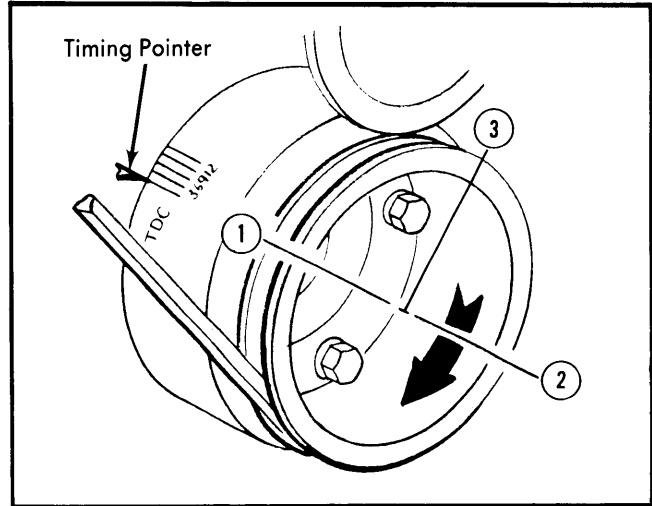

Fig. 7 Crankshaft Positions for Adjusting Hydraulic Valve Lifters
1) Rotate crankshaft until No. 1 piston is at TDC (point 1, see Fig. 7) after compression stroke as indicated by timing mark on crankshaft damper and pointer. Make chalk mark on damper 180° (point 2) from TDC mark. Make a chalk mark 90° (point 3) clockwise from TDC mark.